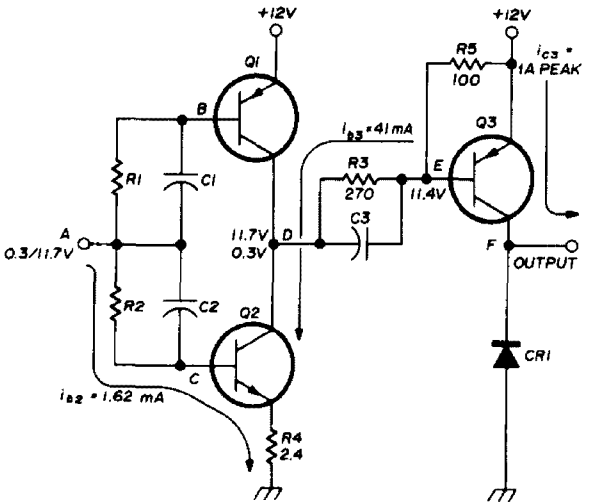

fig. 9. Basic pulse amplifier circuit. Design and operation of this circuit is discussed in the text.
Pulse amplifiers are best designed by working from the output stage back to the pulse source. A sample design is shown in fig. 9. Assume that the peak output current is 1 ampere, and that the minimum current gain of transistor Q3 is 25 (from the data sheet). The base current required to saturate Q3 at all times is then
0.7 volt through the base resistor. This produces an output waveform delayed from the driving waveform. This effect can be overcome by using speed-up capacitors (C1, C2 and C3 in fig. 9). These capacitors have much the same effect as the trimmer capacitor in an oscilloscope probe. The correct capacitance value causes a square-wave voltage (rather than a damped voltage) to appear on the base.